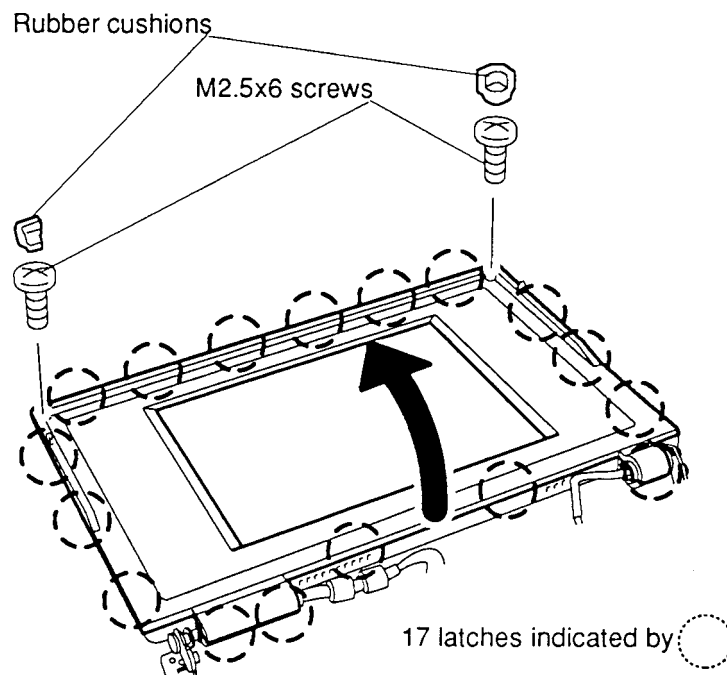

Figure 4-42 Removing the display mask
To remove the T4700CS/T4700CT/T4800CT's display mask, follow the steps below and refer to figure 4-42.
3. Remove **two rubber cushions** from the top corners of the display to expose **two screws** securing the **display mask** (figure 4-42).
4. Remove the **two M2.5x6 screws** that were covered by the cushions (figure 4-42).
5. Carefully insert your fingers between the mask and the LCD panel and pry open the latches. Start with the **six latches** across the top of the display mask (figure 4-42).
6. Continue unlatching the mask along the **sides (three latches on each side)**, at the **bottom (two latches)** and the **display supports, one latch** at the small support and **two latches** at the larger support (figure 4-42).
1. Set the **display mask** in place and secure the snaps beginning with the three snaps in the display supports (two in the larger support and one in the small support (figure 4-42).
2. Continue along the bottom of the display (**two snaps**), along the sides (**three snaps**) and across the top (**six snaps**) (figure 4-42).
3. Secure the cover with **two M2.5x6 screws** at the top corners (figure 4-42).
4. Attach the **two rubber cushions** at each top corner to cover the screws (figure 4-42).